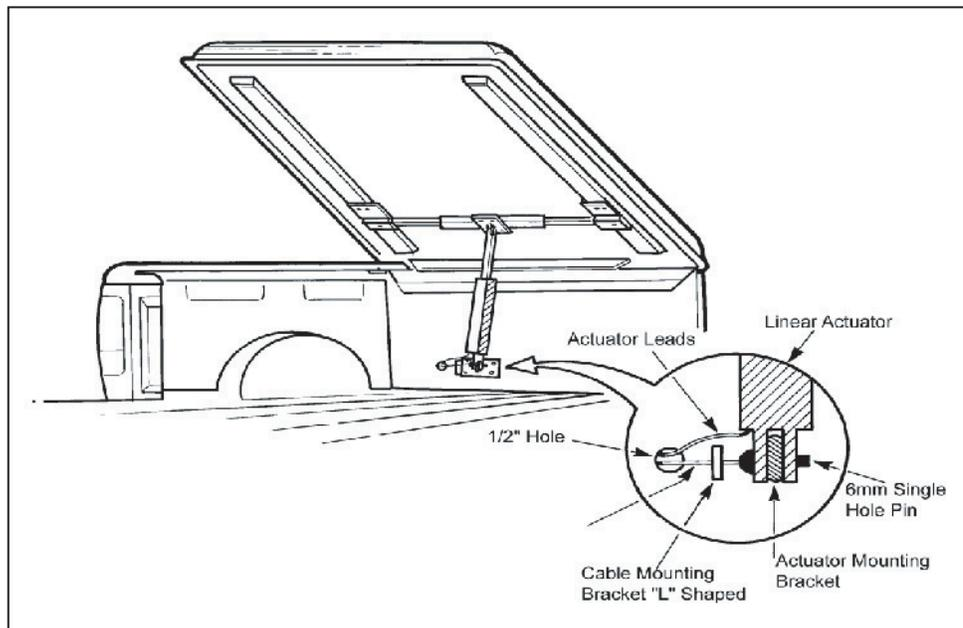

fig. 7
6. If you are installing the emergency cable you will need to attach the "L" bracket supplied in the kit to the lower actuator bracket, make sure you install the little white plastic bushing that is supplied with the emergency kit into the hole at the top of the "L" bracket. This bushing must be seated properly in order for the cable to function correctly, refer to fig. 7. Once you have run the cable through, make a gentle arc, and run the cable housing up into the bushing. Now loop the cable through the actuator mounting pin and run it through one end of the crimp sleeve supplied with the kit. Now loop the cable end into the other end of the sleeve and crimp it so that the cable is secured. Make sure you have some tension on the cable prior to crimping the sleeve.